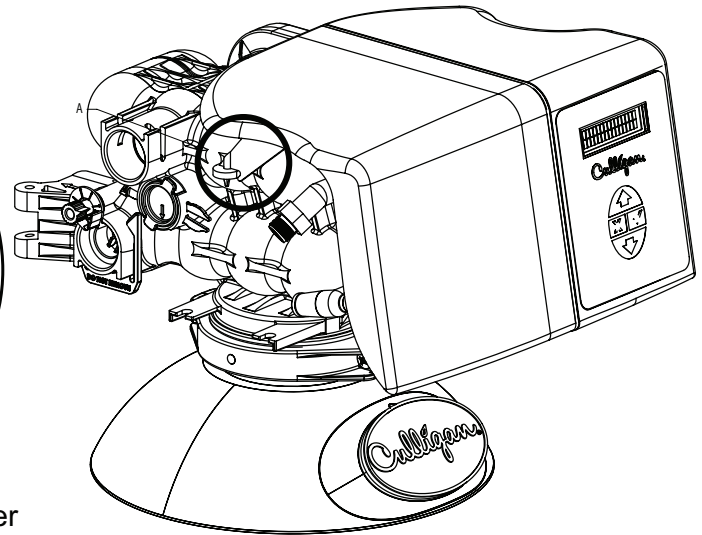

Figure 12. Reattaching the cover fastener.
3. Attach the cover fastener onto the control valve. See Figure 12.